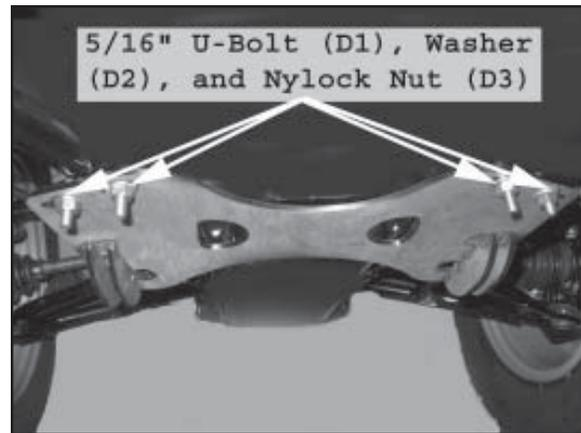

Figure 6 Completed Plow Mount
6. Attach a 5/16" Washer (D2) and 5/16" Nylock Nut (D3) to the ends of both U-bolts as shown in Figure 6. Tighten the 5/16" nylock nuts and the 6mm bolts and nylock nuts on the Plow Mount (A1). Double check all fasteners on the entire